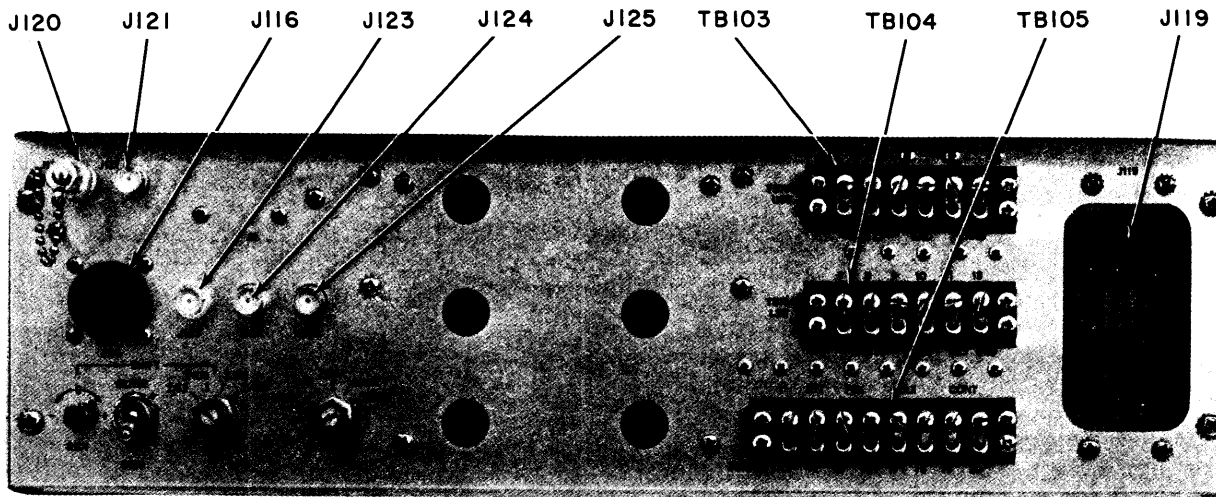
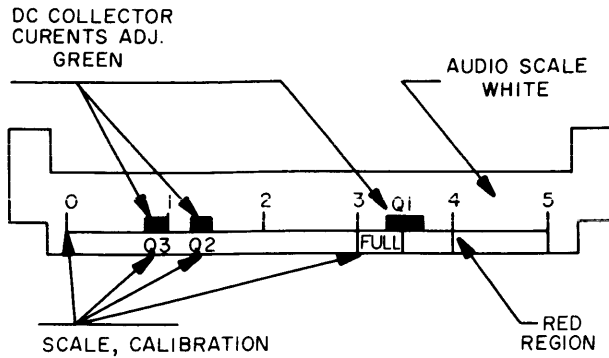

Figure 2-2. Rear Panel Connections
Figure 2-3. Front Panel Monitor Indicators
All electrical connections between the Exciter and associated equipment are made at the rear of the unit. Figure 2-2 illustrates all rear panel connections, while table 2-1 lists the panel designation and function of each connection.
2-5. INITIAL CHECKOUT PROCEDURE (See figures 2-2 and 2-3.)
- a. Set ON/STANDBY switch (10) to STANDBY position.
- b. Connect source of 115 vac line power to connector J116 (figure 2-2). STANDBY indicator (9) shall illuminate amber.
c. Set RF OUTPUT control (2) fully counterclockwise.
d. Set CARR SUPPR (DB) controls (13) and (14) to fully counterclockwise and 0 positions, respectively.
e. Set MODE switch (3) to USB position.
f. Set MIKE GAIN (7) and VOX GAIN (5) to OFF.
g. Set USB control (17) and LSB control (18) fully counterclockwise.
h. Set EXCITER switch (12) to ON.
j. Set ON/STANDBY switch (10) to ON. Standby indicator (9) shall extinguish and POWER indicator (11) shall illuminate red.
k. Set METER switch (3) to Q1 position. MONITOR meter (6) shall indicate in the green region marked Q1. (See figure 2-3.)
l. Set METER switch (3) to Q2 position. MONITOR meter (6) shall indicate in the green region marked Q2. (See figure 2-3.)
m. Set METER switch (3) to Q3 position. MONITOR meter (6) shall indicate in the green region marked Q3. (See figure 2-3.)
n. Set METER switch (3) to RF position. MONITOR meter (6) shall indicate zero with RF OUTPUT control (2) fully counterclockwise.
o. Connect a VTVM (Hewlett-Packard Model 410B, or equivalent) to RF OUT jack J124 (figure 2-2) across a 50-ohm load resistor. Adjust RF OUTPUT control (2) until VTVM indicates 3.5 volts.
p. Set METER switch (3) to USB position. Adjust USB gain control (17) for an indication of 4/5 full scale on MONITOR meter (6).
q. Set METER switch (3) to LSB position. Adjust LSB gain control (18) for an indication of 4/5 full scale on MONITOR meter (6).
r. Set CARR SUPPR (DB) control (14) to VAR and set METER switch (3) to CARR position; adjust carrier to desired level on MONITOR meter (6) using CARR SUPPR (DB) control (13).
s. To verify proper AM operation, set MODE switch (15) to AM. Set EXCITER switch (12) to ON; MONITOR meter (6) shall indicate approximately 0.7.
a. Connect a source of 115 vac, single-phase power to connector J116 (figure 2-2). Observe that STANDBY indicator (9) illuminates amber.
b. Make necessary interface connections on rear panel jack (figure 2-2).